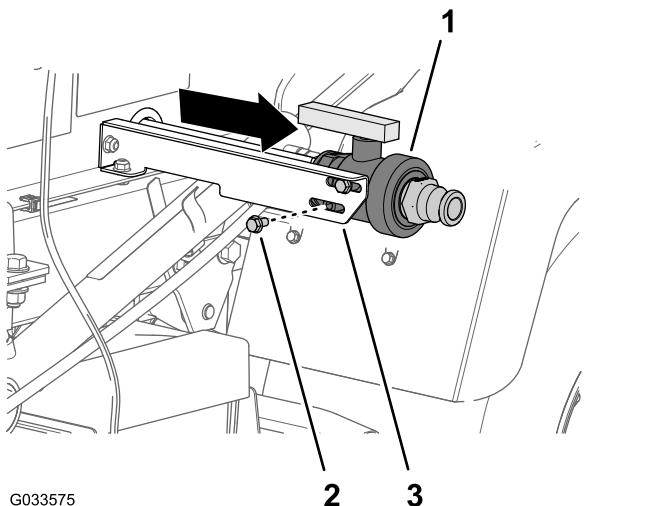

Figure 14
3. Loosely assemble the drain valve to the drain-valve bracket (Figure 14) with the 2 flange-head bolts (5/16 x 5/8 inch) that you removed in step 2.
4. Move the drain valve fully outward in the slots of the bracket, and tighten 2 flanged head bolts by hand (Figure 14)